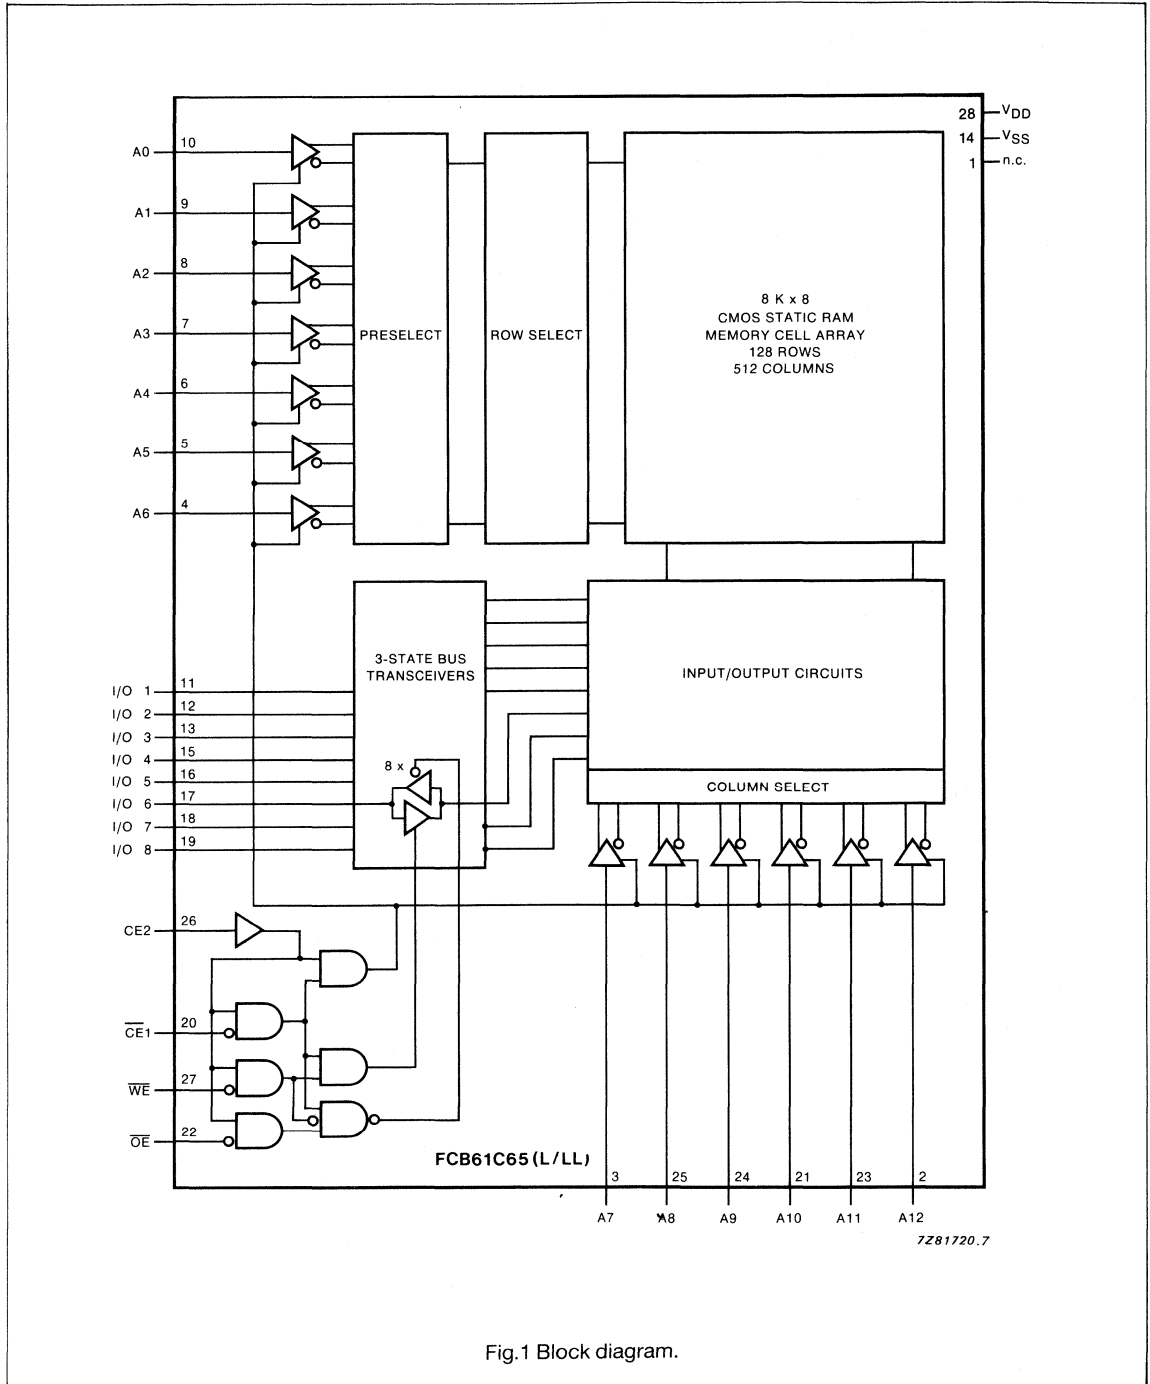

Fig.1 Block diagram.
- Test circuit Figure 1.
- Test circuit Figures 1 and 2.